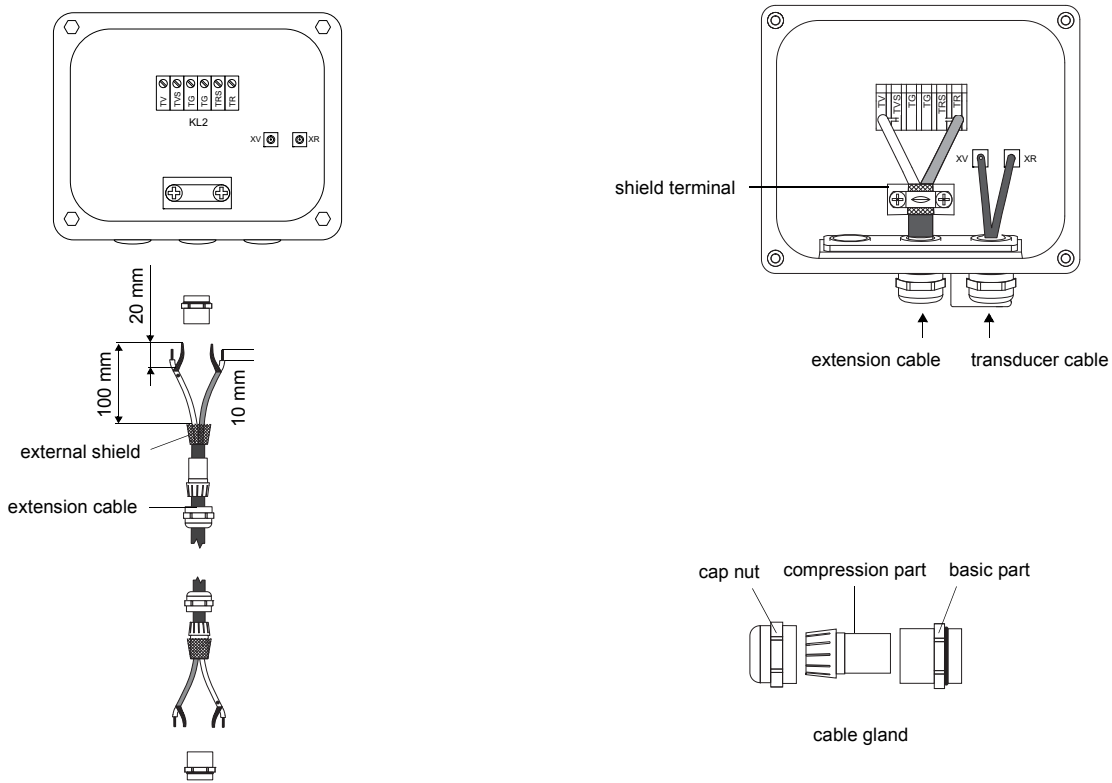

Fig. 6.21: Connection of the extension cable to the junction box
- Remove the blind plug for the connection of the extension cable (see Fig. 6.21).
- Pull the extension cable back until the brushed back external shield is below the shield terminal (see Fig. 6.21). The extension cable must remain completely insulated up to the shield terminal.
- Connect the extension cable to the terminals of the transmitter (see Fig. 6.21 and Tab. 6.17).